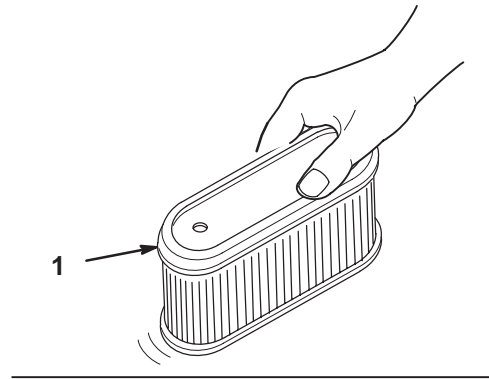

Figure 25
- Lightly tap the element on a flat surface to remove dust and dirt (Fig. 25).